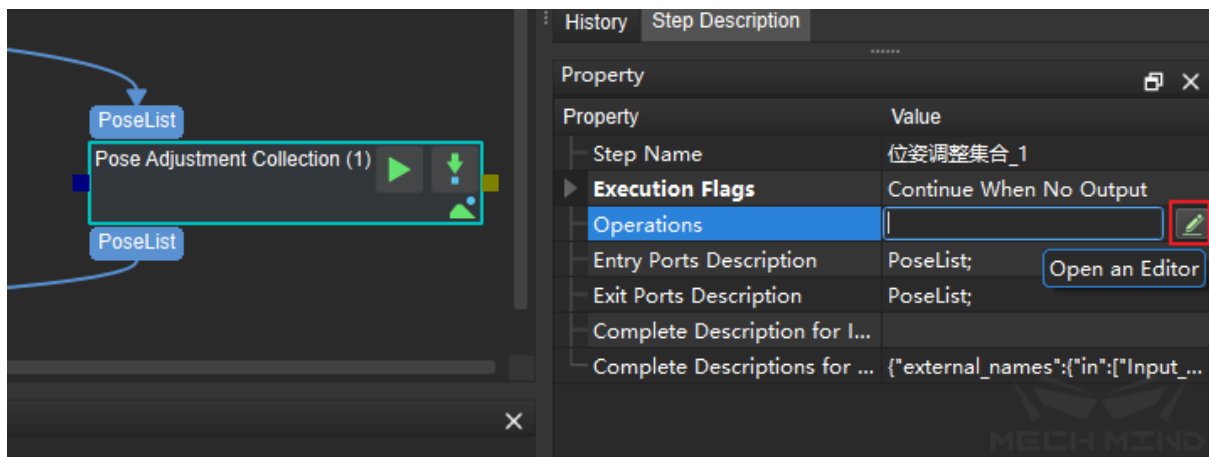

figure 7 Enter the Pose Editor
Step 2. Run the project to get the input pose, and then click the  button in the Operations input box in the property bar to enter the pose editor, as shown in *figure 7*.